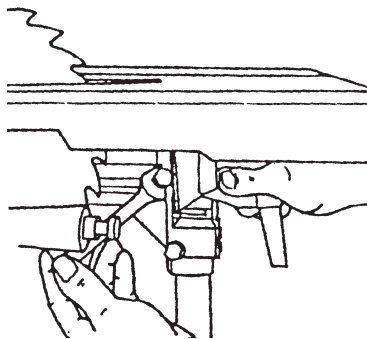

Figure 34
12. To adjust the 0° Stop, simultaneously depress the Table Stop Pin and use a 1/2" Wrench to adjust the Stop Bolt. The Stop Bolt should just contact the side of the Stop Pin. Once the Stop Bolt is adjusted, the Stop Pin will "snap" back when the Tilt Lock is tightened. See Figure 34.